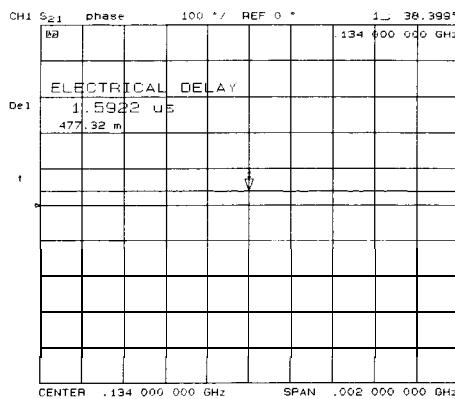

Figure 2-35. Example Best Flat Line with Added Electrical Delay
8. Press [SCALE REF] **ELECTRICAL DELAY** and turn the front panel knob to increase the electrical length until you achieve the best flat line, as shown in Figure 2-35.